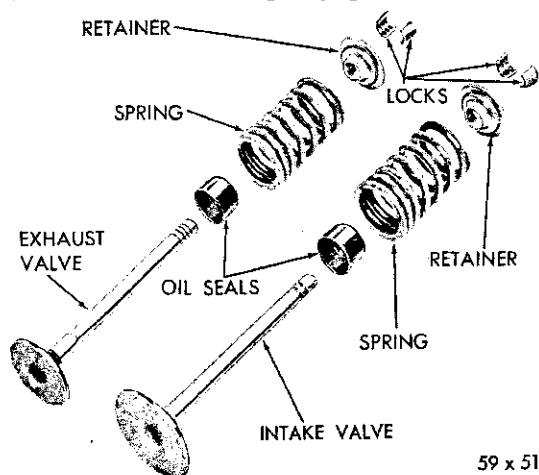

Fig. 15—Valve Assembly (Disassembled View)
(1) Coat the valve stems with lubricating oil and insert them in position in the cylinder head.
(2) Install new cup seals on the intake and exhaust valve stems and over the valve guides, as shown in Figures 15 and 16 and install the valve springs and retainers.
(3) Compress the valve springs with Tool C-3422. Install the locks and release tool.